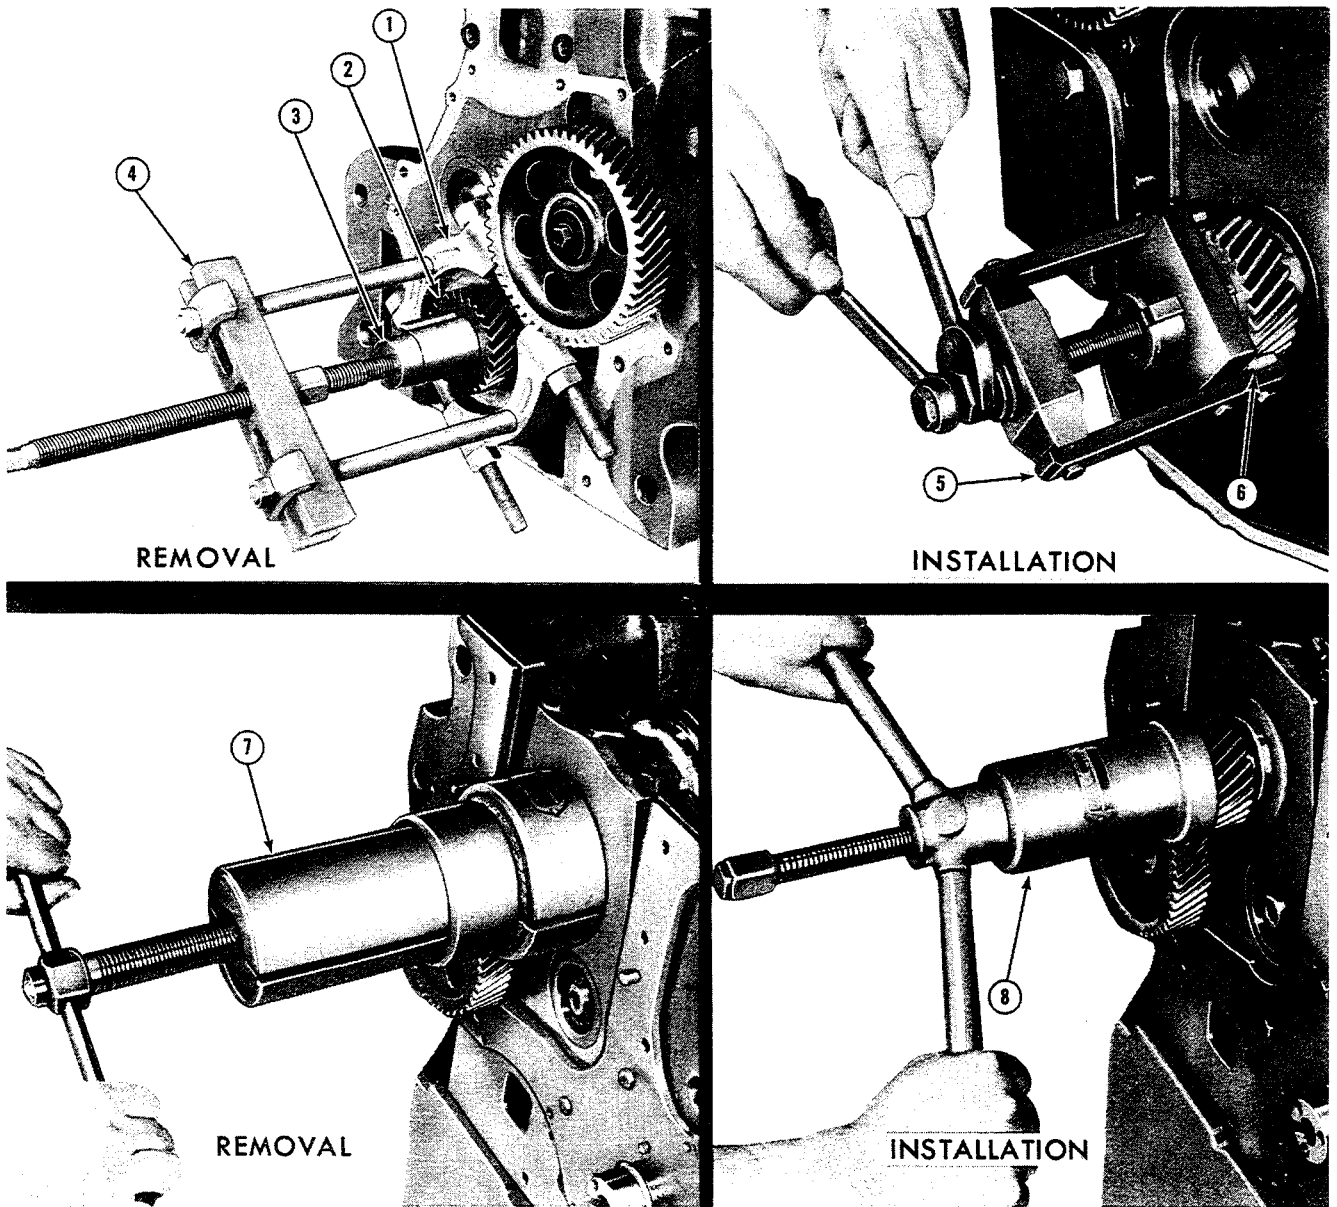

Figure 34
- Remove the crankshaft gear with Crankshaft Gear Remover-Replacer, No. SW 501 with Insert SW 501-1, or Remover No. CPT 6040, as shown in Figure 34.
- Install the crankshaft gear with Crankshaft Gear Remover-Replacer No. SW 501 with Insert SW 501-1, or Replacer No. CT 6069, as shown in Figure 34.